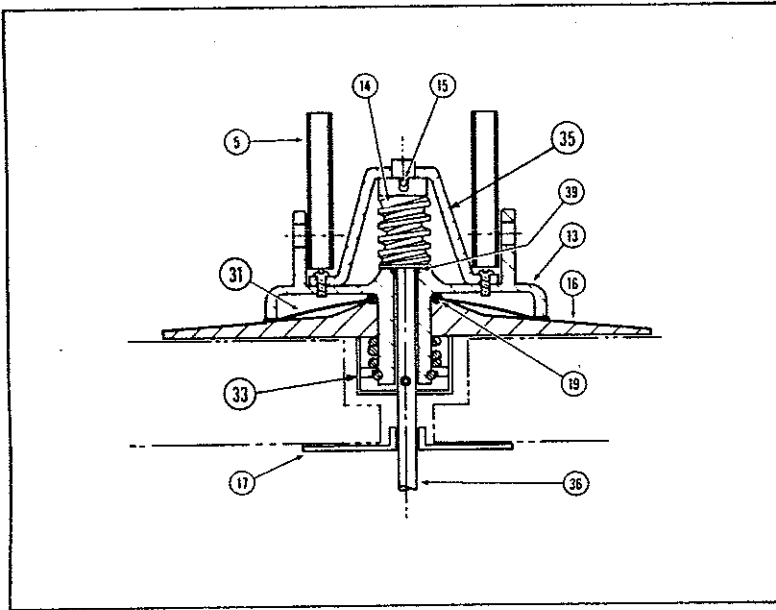

Figure 21.
1. Punch out pin item 15.(Figure 21)
2. Pull down shaft item 36 with twisting motion.